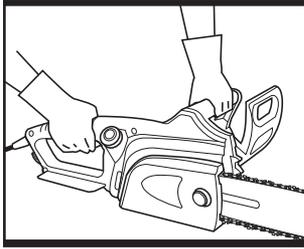

Fig. 15a
2). Grip the product with both hands, left hand holding the front handle (do not hold chain brake) and the right hand holding the rear handle. Press the lock-off button, then fully press the switch trigger and hold in this position. The lock-off button can now be released now. (See Fig. 15a, 15b).